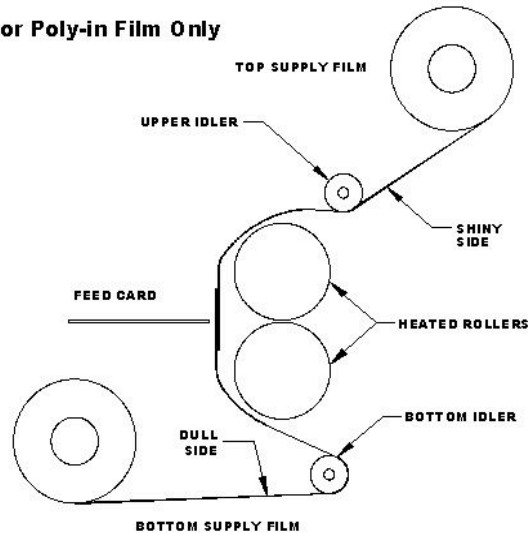

Figure 5
4. Pull 6"-12" of film from the bottom roll. Pass it under the lower idler bar and drape the film from the bottom roll over the film from the top roll. Since the rollers are hot the bottom film will adhere to the top film. See Figure 5 below.
6. Feed a piece of thin cardboard about 10" x 25" against the film so that it is centered between the two Heat Shoes. Push the cardboard and film into the Laminating Rollers. See figure 5.